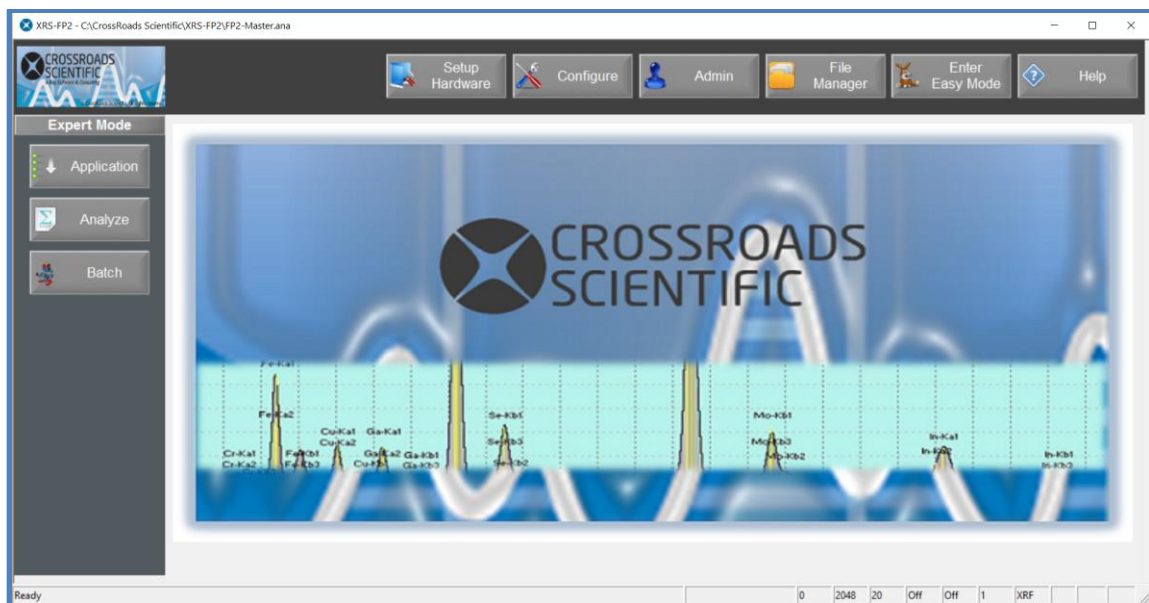

Figure 3. XRS-FP2. XRS-FP2 home page.
2. Launch XRS-FP2 – either run the software from the Windows Start-Programs menu, or double-click on a shortcut (if one has been created on the desktop). First, a splash screen will load and then XRS-FP2 will be displayed. See figure 3 below. The splash screen will briefly show the values and options for the HASP security plug, and the software libraries that have been loaded. This can also be displayed by selecting the **Help** button (located in the top ribbon).